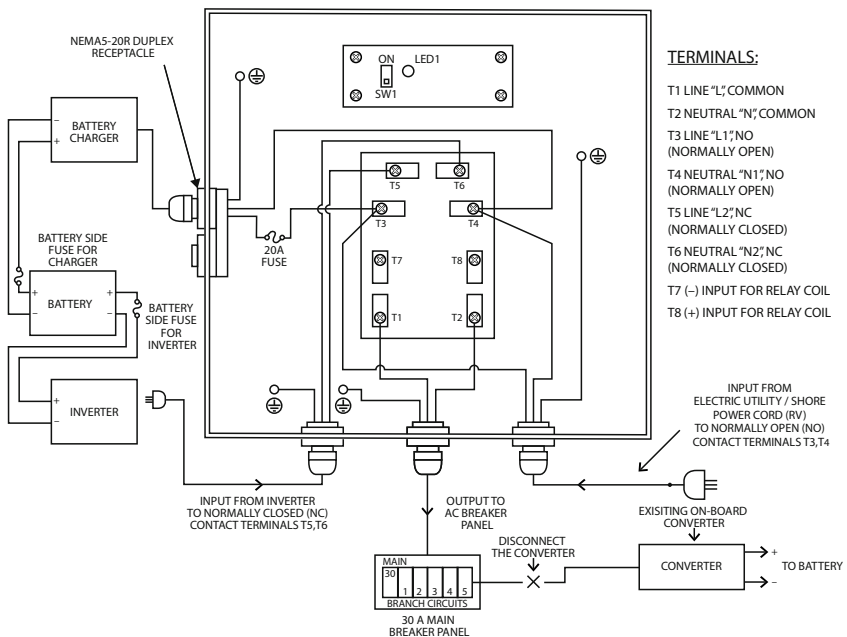

Fig.4. Switching Between Utility and Inverter
- b. Use AWG#10/3 (30A) cable to connect AC input power from Utility/Shore Power Cord (RV). A 3/4" cable clamp (4, Fig 4) has been provided for cable entry. More 3/4" / 1" knock outs have also be provided for cable entry from other sides and may be used Connect the cable as follows:
- c. Use AWG#10/3 cable to connect the AC output to the main breaker panel by using a convenient knockout / cable clamp (3/4" or 1") for cable entry. Cable clamp has not been provided for this connection and has to be provided by the user. Connect the 3 wires as follows (Fig 4):
- d. Plug the NEMA5-15 plug (2, Fig 1) of the inverter power cord (1, Fig 1) to the output of the inverter (Fig 4). As pointed out earlier on page 8, in case the inverter capacity is >1800 VA & up to 3600 VA, appropriate connection arrangement using AWG#10/3 wiring will have to be used. **Please ensure that the inverter is switched OFF and the battery input connection to the inverter is disconnected.**
- e. Plug the external battery charger to one of the receptacles of the NEMA-20R Duplex receptacle (3, Fig 1; Fig 4). **Please ensure that the AC input current of the battery charger is less than 16A continuous as the receptacle is internally fused at 20A max. In case the current drawn by the external battery charger is > 16A continuous, the charger should be wired to a separate circuit connected to the NO contact terminals T3 and T4 through a fuse applicable to the input current of the charger.**
- f. **In case the Transfer Switch is being used in an RV application, the built-in converter of the RV should be disconnected from the AC Breaker Panel (Fig 4).** This is necessary because when the electric utility / shore power cord / the generator fails / is removed, the panel will be fed by the inverter and if the converter is not disconnected from the panel, it will result in a battery to inverter to converter to battery loop that will quickly drain the batteries. In case the external battery charger is not being used, the converter may be re-wired to the NEMA5-20R Duplex receptacle (3, Fig 1). As these receptacles are connected to the NO contact terminals T3 and T4, the converter will always be powered from the electric utility / shore power cord / the generator.
TESTING OF THE OPERATION (FIG 4)